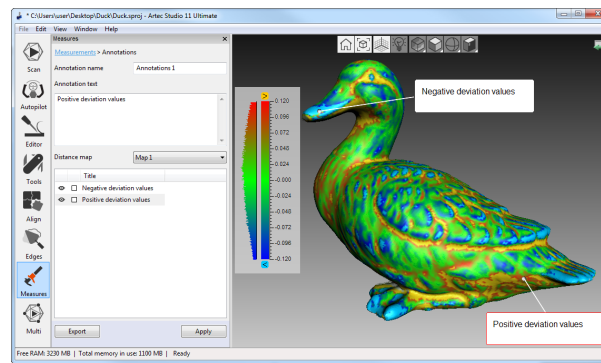

Figure 9.14.: Annotation of a model layered with a surface-distance map.
Annotations tools allow you to mark noteworthy surfaces and surface-distance maps. The annotation can include one or more labels, which look like rectangular tags with connecting lines pointing to the corresponding surface elements (see Figure 9.14).
5. Repeat Steps 3 and 4 to create a new label. In addition to tagging the surface, each new label will appear in the annotation list of the *Measures* panel (see Figure 9.14). You can show or hide labels in the list or change their colors by clicking **RMB** and selecting the appropriate option from the menu. Alternatively, toggle the selection flag  or click the square button to show/hide labels or change their colors, respectively.
- Select the label in the *3D View* window; its border color will become red (see selected label in Figure 9.14). Hit the **Del** key.